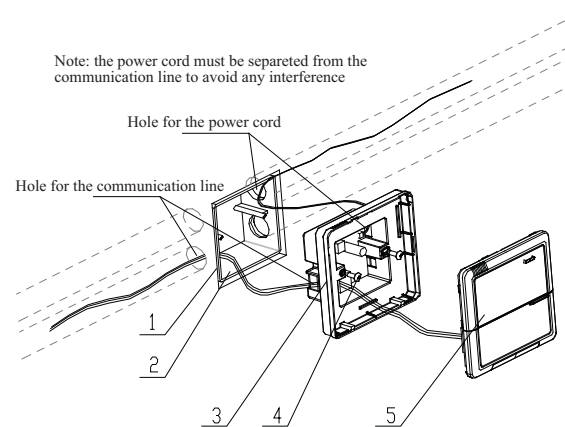

Fig. 7.6 Installation Diagram
- b. Embed the power supply box (2) as displayed in Fig.7.6 for the installation of the bottom case (3).
- c. Connect the power cord and the communication line of the display board and then thread both of them through the power supply box (2).
- d. Attach the bottom case onto the power box (2) using screws.
- f. Close the cover (5).